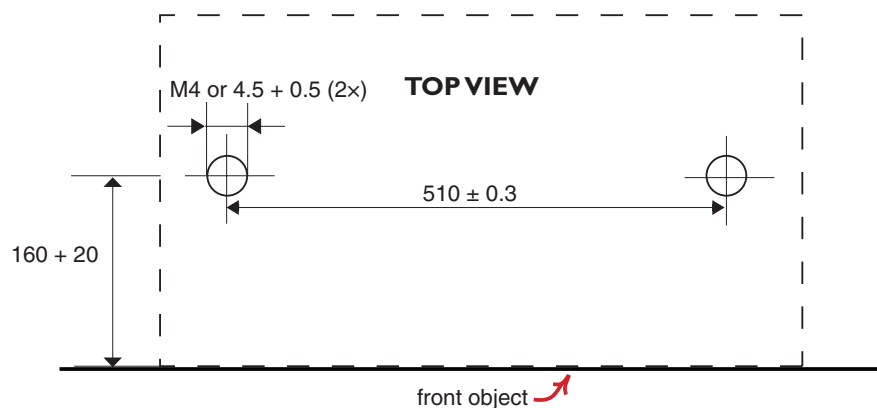

FIGURE 1-11
2. Drill 2 fixing holes for screws of M4 into the platform of the object. It is up to you to use drilling or threaded holes. The fixing dimensions of the drilling holes are shown in Figure 1-11.